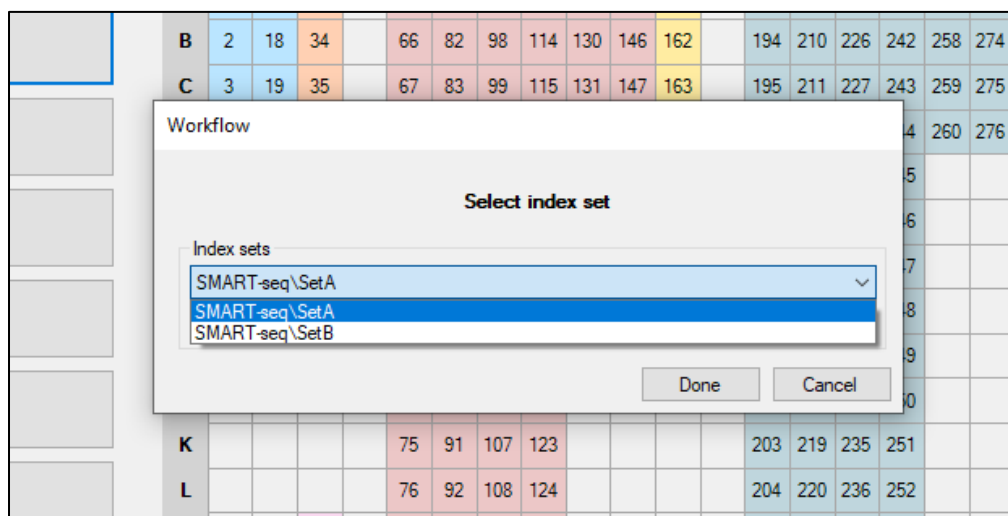

Figure 8. Select index set workflow prompt. The display defaults to using Set A. Ensure the correct indexing primer set is selected before clicking [Done].
A “Select index set” Workflow window will display asking you to indicate which SMART-Seq Pro Indexing Primer Plate you are using (Figure 8). Choose the one you are using for this run from the drop-down menu and then click [Done].
- b. For Step 6, the *New stack info* dialog window will display (Figure 12, below). The “Barcodes” field will be grayed out because the barcode file is pre-configured during the Dispense (Section V.B, Figure 8).